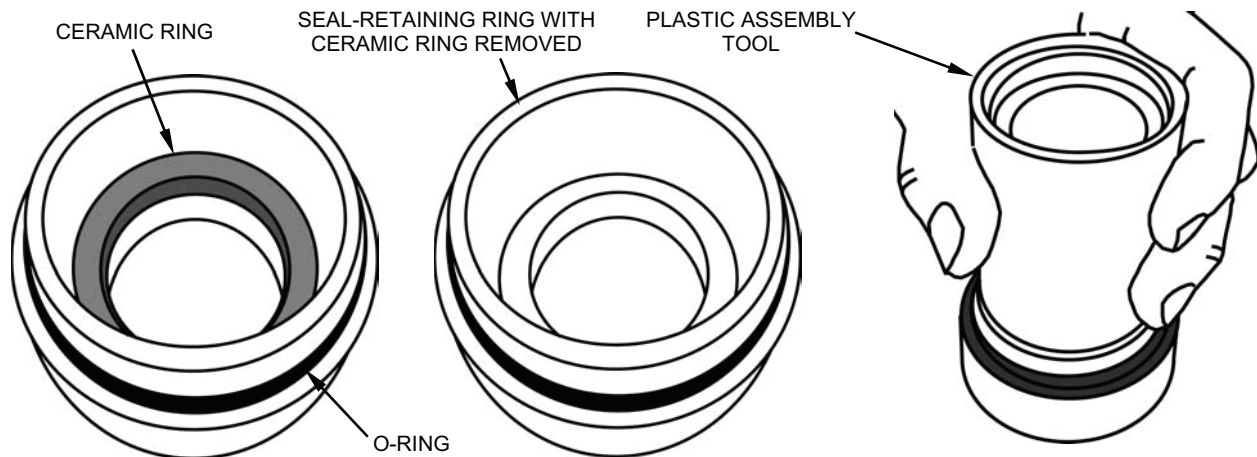

Figure 41. Replacing Ceramic Ring in Seal-Retaining Ring.
- x. Set the seal-retaining ring upside down on a clean surface. Carefully remove the old ceramic ring and rubber seal by pushing them out using a brass punch or other soft tool (see Figure 41).
- aa. Using the plastic assembly tool, push the new ceramic ring into the seal-retaining ring (see Figure 41).
- bb. Remove the old O-ring from the seal-retaining ring. Lightly lubricate a new O-ring with glycerin and install it on the seal-retaining ring (see Figure 41).